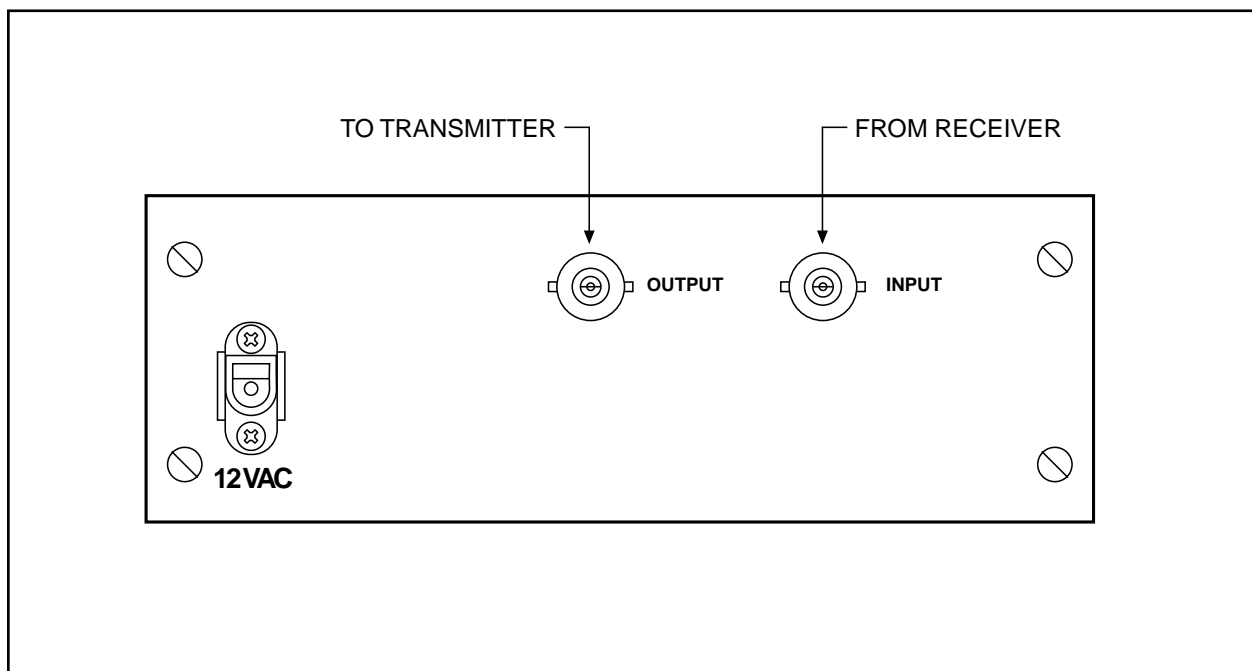

Figure 2. EA2000 Cable Connections
2. Connect a video cable from the connector marked "OUTPUT" to the Coaxitron transmitter (see Figure 2).